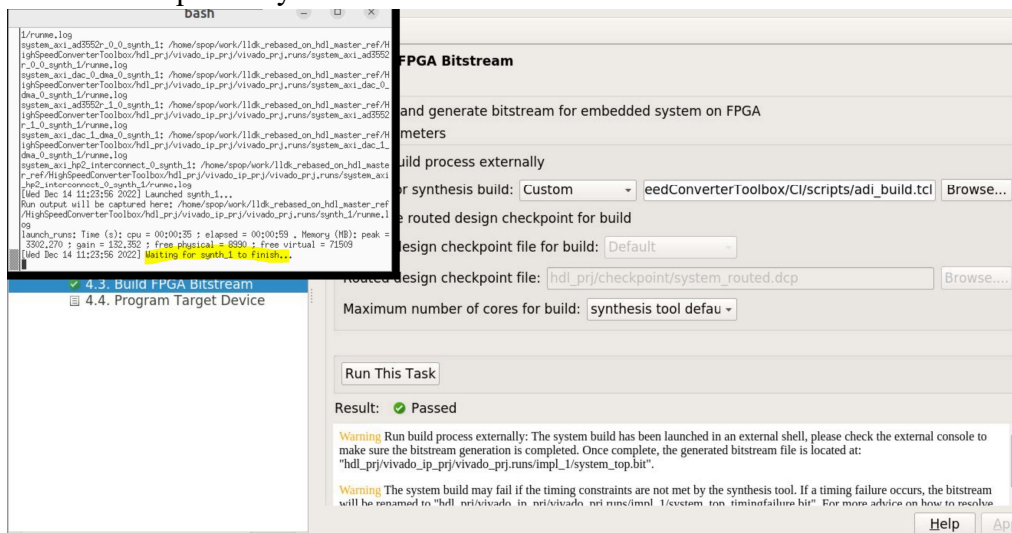
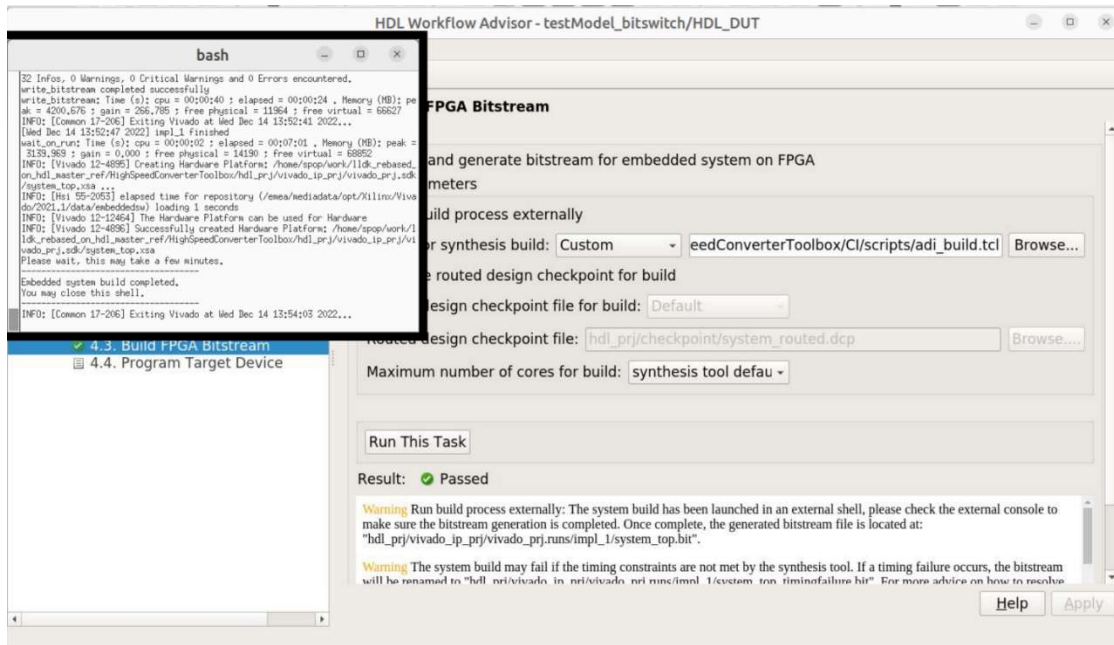

Figure 17. Build FPGA Bitstream
Figure 18. Build FPGA Bitstream Task Complete Message
3.3 Choose the “Custom” option for the Tcl file synthesis build, then Browse for the `adi_build.tcl` file located under `HighSpeedConverterToolbox/CI/scripts`, as shown in Figure 17. A bash prompt will open, and you can see the entire build process log file, as shown in Figure 17 and Figure 18. This step usually takes about an hour.